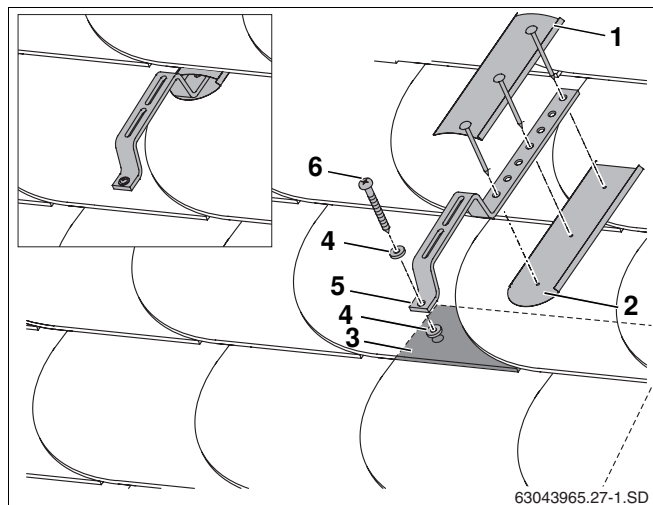

Fig. 26 Mounting on slate/shingle roof
Here is an example of the installation of the special roof hooks and the watertight seal with custom flashing (Fig. 26, **Item 1** and **2**) with a shingle/slate roof.
- Fit special roof hook (Fig. 26, **Item 5**) and gasket (Fig. 26, **Item 4**) to the slate/shingle roofs using screw (Fig. 26, **Item 6**).
- To ensure that the installation is watertight, flashing (Fig. 26, **Item 1, 2**) must be installed on the building above and below the special roof hooks.
The special roof hooks must be positioned on the front of a multiple roof (Fig. 26, **Item 3**).